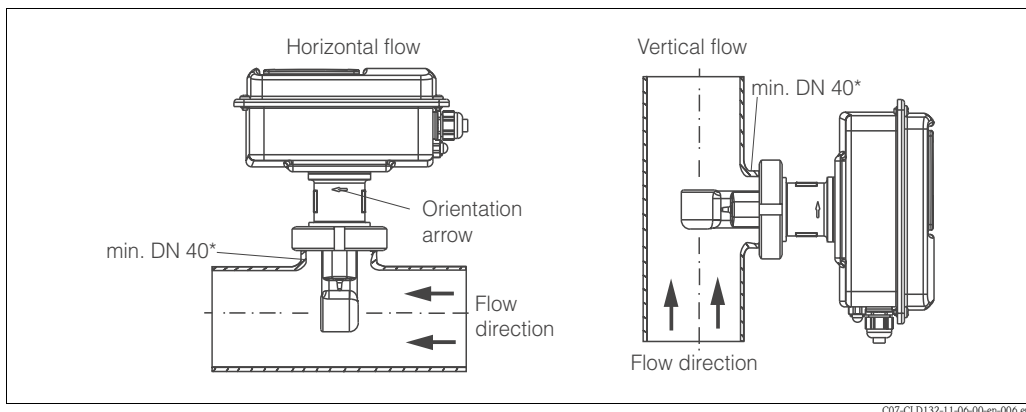

Fig. 14: Installation of CLD132 compact version
1. When installing the Smartec S CLD132 or the sensor, make sure that the flow opening of the sensor is oriented in the flow direction of the medium. An orientation arrow on the sensor facilitates orientation (see Fig. 14 above).